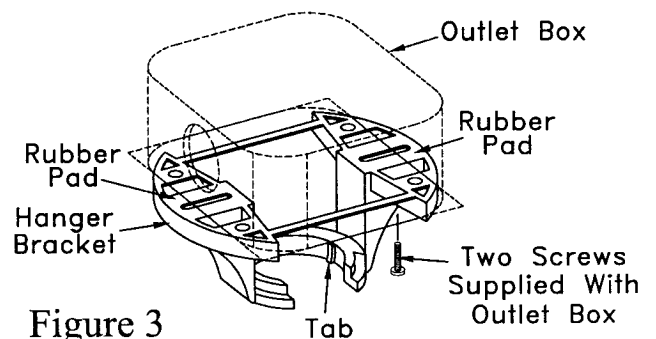

Figure 3
- ☐ 1. Securely attach the hanger bracket to the outlet box using the outlet box screws supplied with your fan or outlet box (Figure 3).
4. Carefully lift the fan and seat the downrod/hanger ball assembly on the hanger bracket that was just attached to the outlet box (Figure 4). Be sure the groove in the ball is lined up with tab on the hanger bracket (Figure 3).